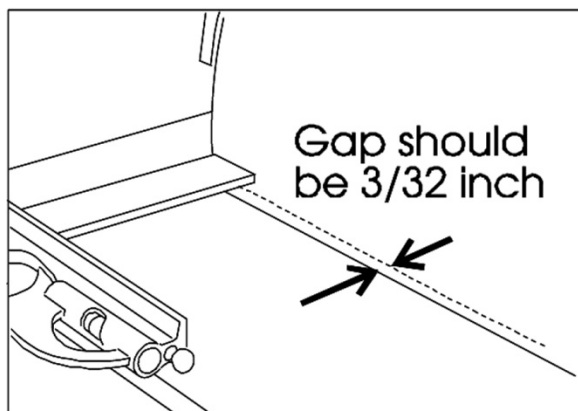

Figure 18: Table-to-disc gap measurement.
4. Slide the disc in or out along its shaft until the table-to-disc gap is 3/32 inch (See Figure 18).